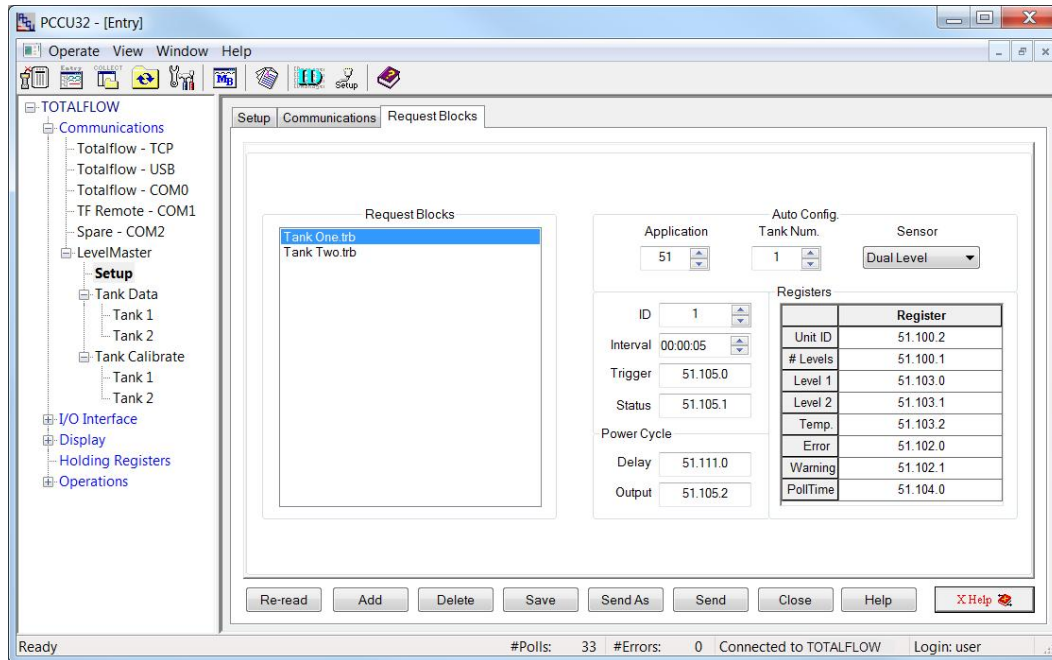

Figure 49: LevelMaster application request block files
1. Select the **Request Blocks** tab (Figure 49).